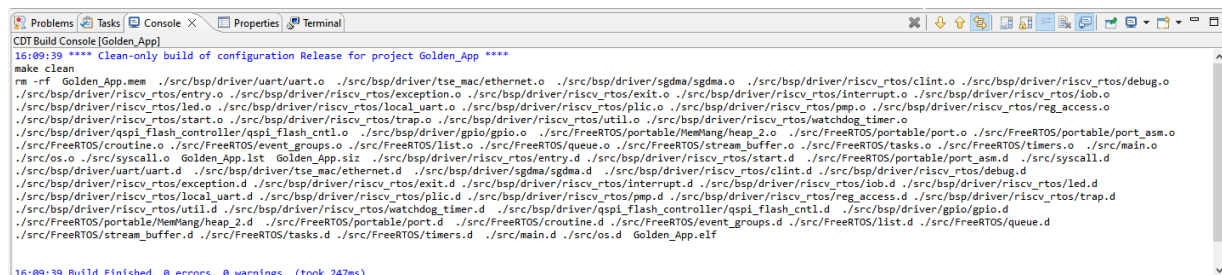

Figure C.36. Console
9. After selecting the options, observe the console and wait for the process to complete to 100%. After completion, the message shown in Figure C.36 on the console.